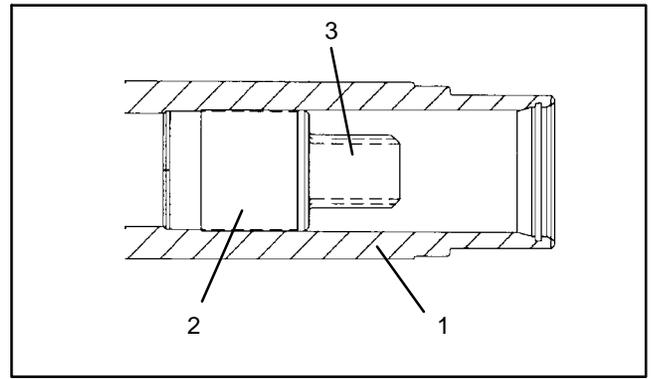

Figure 21
- C. Check the drive adapter inside of the reel shaft (Fig. 21). The adapter should be free of bending and distortion. Check the splines for excessive cracks or distortion. Replace the reel if necessary.